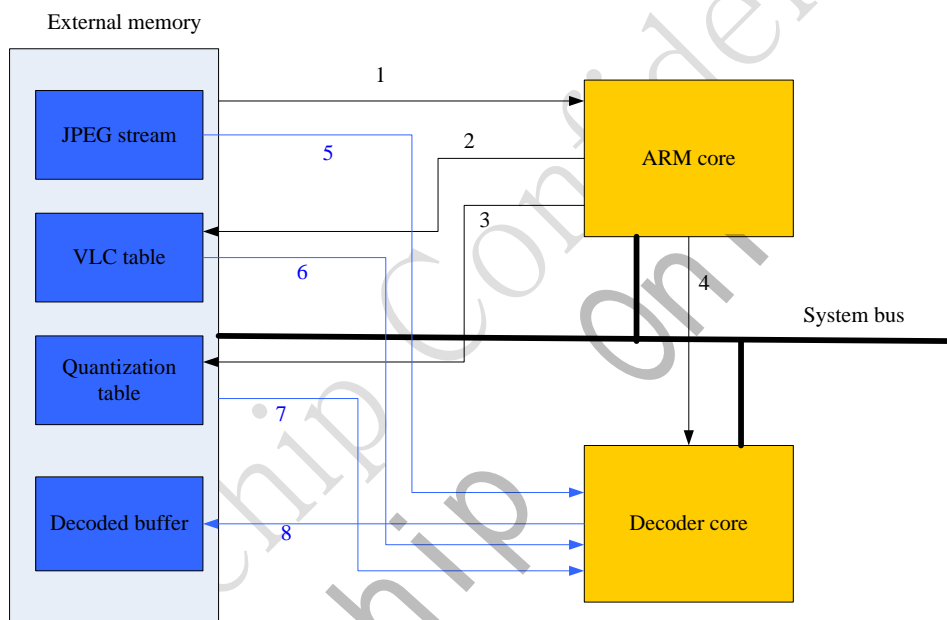

Fig. 25-10 The dataflow of JPEG decoder
The data flow of jpeg decoder is as Fig. 25-10 shown. The decoder software starts decoding the picture by parsing the stream headers (1) and then writes the following items to external memory: